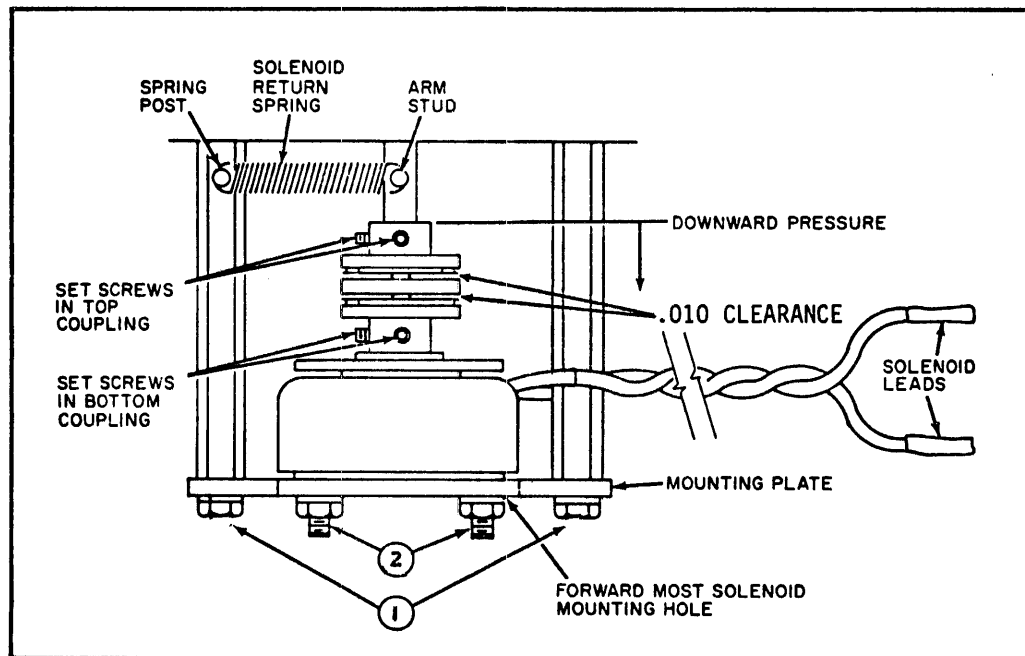

Figure 6-11. Solenoid Preload Adjustment
- q. Using a 1/16 Allen screwdriver, LOOSEN the two set screws in the top of the solenoid coupling, figure 6-11.